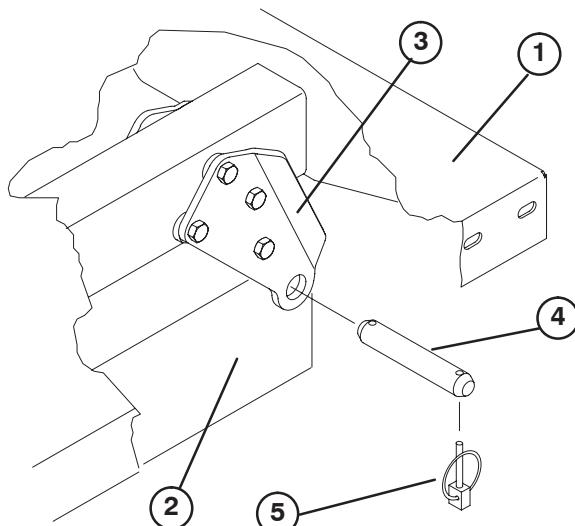

Figure 10
3. Remove clevis pins securing cylinder rod ends to bed mounting plates by pushing pins towards inside (Fig. 10).
4. Remove lynch pins and clevis pins securing pivot brackets to frame channels (Fig. 10).
**Note:** Assure rear pivot plates are bolted to the bed frame/channel so that lower end angles to the rear (Fig. 10).
2. Carefully set bed onto vehicle frame aligning rear bed pivot plate holes with holes in rear frame channel and install (2) clevis pins and lynch pins (Fig. 10).
3. With bed lowered, secure each cylinder rod end, to appropriate slots in bed mounting plates with clevis pin and lynch pin. Insert clevis pin from outside of bed with lynch pin toward outside (Fig. 10). Rear slots are for full bed installation and front slots are for 2/3 bed installation.